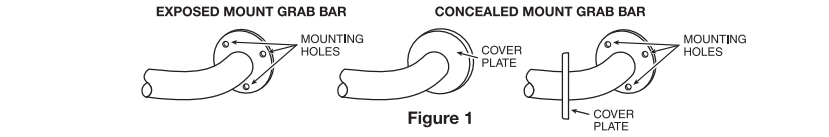

Figure 1
1. Remove Grab Bar and parts from the package. If concealed mount grab bar is used, move cover plates away from mounting holes (see Figure 1).
16. If concealed mount Grab Bar is used, move cover plates over mounting holes and firmly press against the wall (see Figure 1).